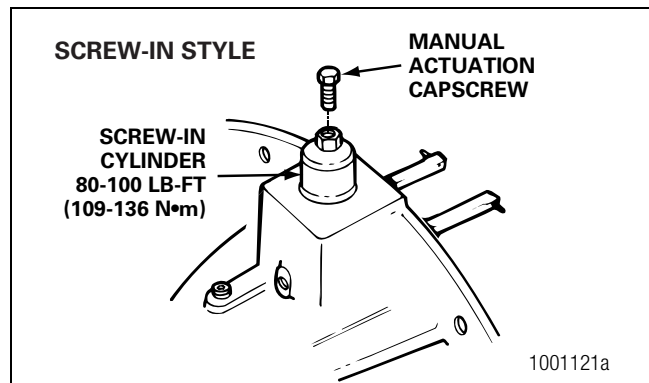

Figure 6.18
7. Screw the DCDL cylinder in place. Tighten the cylinder to 80-100 lb-ft (109-136 N•m). Figure 6.18.